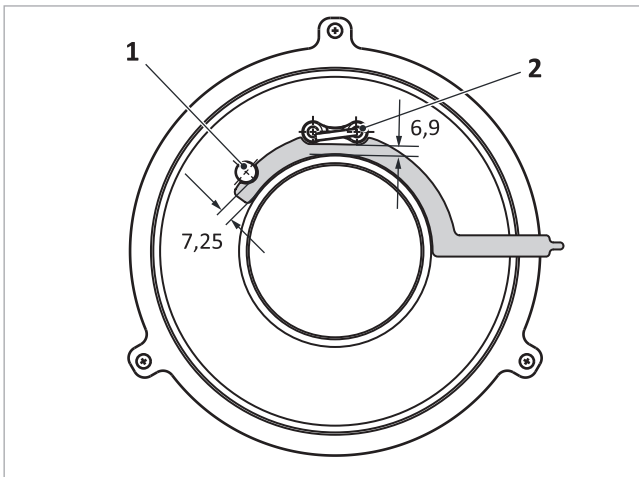

Fig. 32: Clearance from ionisation electrode and ignition electrode to burner tile
- Ionisation electrode → fig. 32 (1): 7.25 mm
- Ignition electrode → fig. 32 (2): 6.9 mm